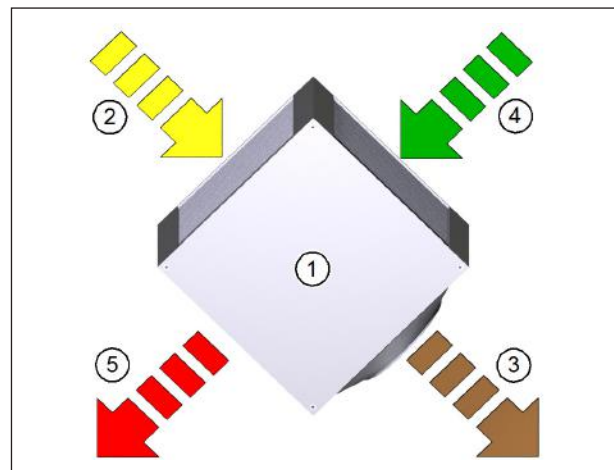

Fig. 9: How the cross-flow plate heat exchanger works
The warm extract air drawn in from the interior (item 2 in Fig. 9) is routed through the chambers of the cross-flow plate heat exchanger (item 1 in Fig. 9) and heats them.
When cooled, it is carried to the outside as exhaust air (item 3 in Fig. 9) via the exhaust air pipe. At the same time, cold outdoor air is drawn in through the outdoor air pipe (item 4 in Fig. 9) and is routed through the plate heat exchanger which was heated by the extract air. This heats up the outdoor air. Separate routes for the extract air and outdoor air prevent them mixing.
The heated outdoor air is routed into the interior as supply air (item 5 in Fig. 9).